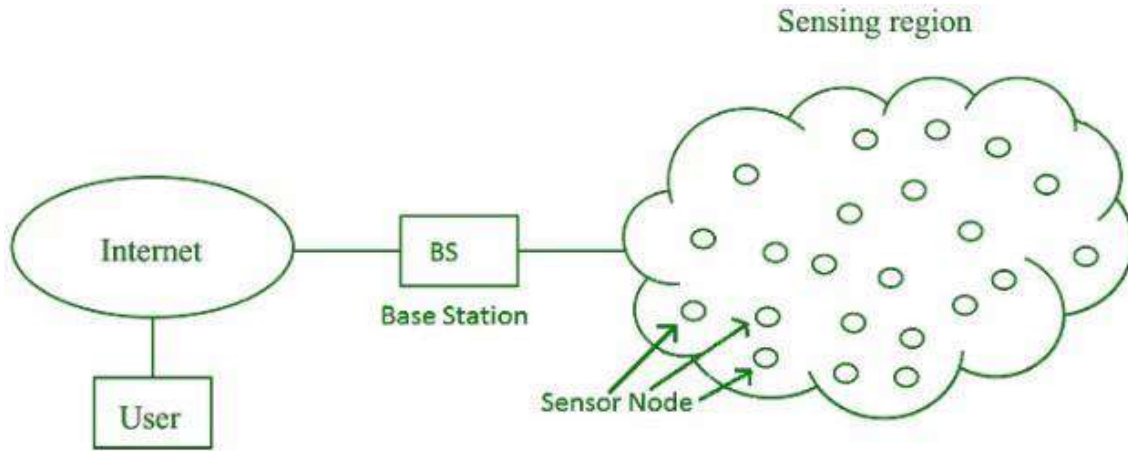

Figure 2.1 Wireless Sensor Networks
- Wireless Sensor Network (WSN) is an infrastructure-less wireless network that is deployed in a large number of wireless sensors in an ad-hoc manner that is used to monitor the system, physical or environmental conditions (Figure 2.1).